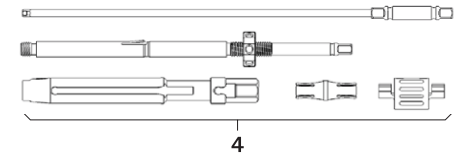

Fig. 9
- Mount reduction lever 4, see Fig. 9.